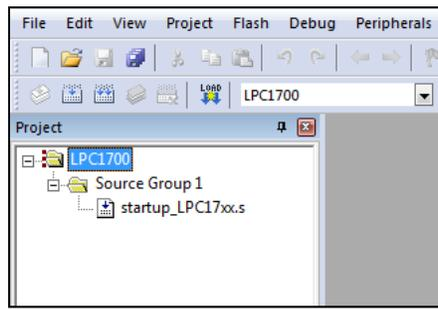

Fig 5: Initial Project Structure (Project Workspace)
10. Click *once* on the "Target1" field in the left column (with the field highlighted first). Rename the field to "LPC1700". Press ENTER. Your workspace should now resemble Fig 5.